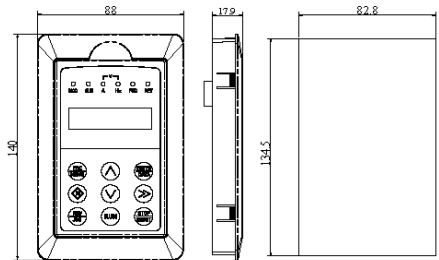

Fig.2-7 Hole size of keypad
02. When installed with keypad holder, it need to buy extra Fig.2-7